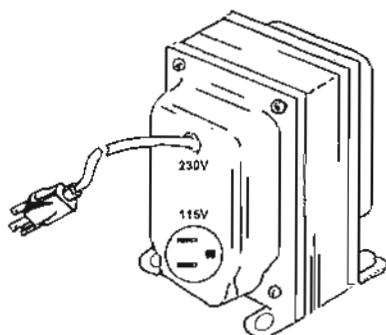

Figure 1-2. Step-down transformer.
(2) *Step-down transformer* (fig 1-2). The stand-alone transformer is used to operate the centrifuge from a 230-volt source of electrical power.